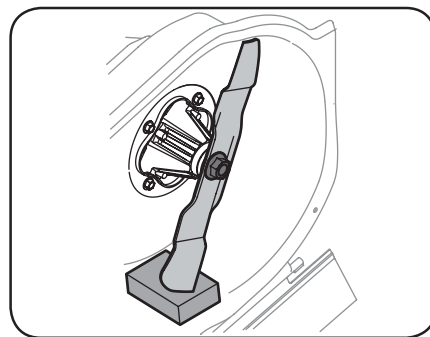

Figure 4-8
4. Remove the hex flange nuts (a) that secures the blades to the spindle assembly. See Figure 4-8.